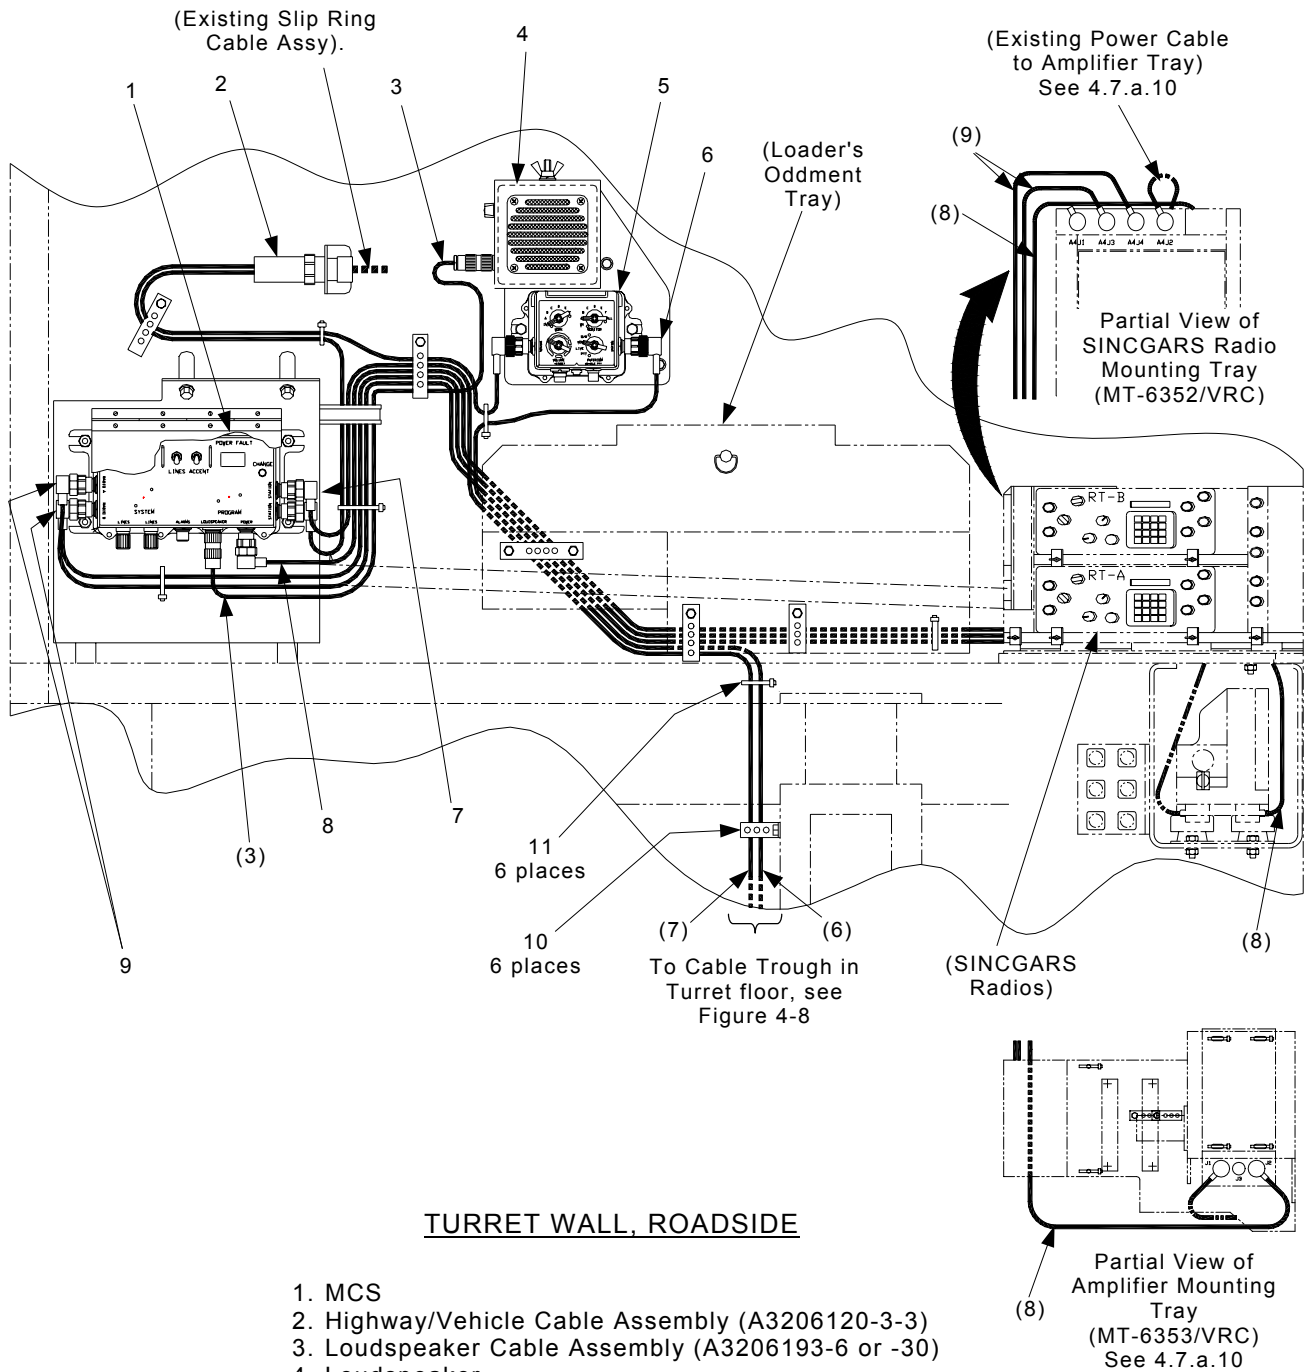

Figure 4-7. MCS, Loader's FFCS and Loudspeaker Cabling
#### a. MCS, Loader's FFCS and Loudspeaker Cabling Installation (Fig. 4-7)
2. Secure connector P1 of the Radio R/T Cable Assembly (9) to the Radio A connector on the MCS (1).
3. Route the Radio R/T Cable (9) as shown in Figure 4-7, until the Radio Mounting Tray is reached.
4. Secure connector P2 of the Radio R/T Cable Assembly (9) to the Radio Mounting Tray connector A4J3.
5. Secure connector P1 of the Radio R/T Cable Assembly (9) to the Radio B connector on the MCS (1).
6. Route the Radio R/T Cable (9) as shown in Figure 4-7, until the Radio Mounting Tray is reached.
7. Secure connector P2 of the Radio R/T Cable Assembly (9) to the Radio Mounting Tray connector A4J4.
8. Secure connector P1 of the Power Cable Assembly (8) to the Power connector on the MCS (1).
9. Route the Power Cable Assembly (8) as shown in Figure 4-7, until the Amplifier Mounting Tray is reached.
10. Secure connector P2 of the Power Cable Assembly (8) to the Amplifier Mounting Tray connector J2. If Amplifier Mounting Tray is not present, secure to connector A4J2 of SINCGARS Radio Mounting Tray.
11. Secure connector P2 of the Highway/Vehicle Cable Assembly (2) to the bottom Station connector on the MCS (1).
**a. MCS, Loader's FFCS and Loudspeaker Cabling Installation (Fig. 4-7)
12. Route P1 leg of the Highway/Vehicle Cable Assembly (2) as shown in Figure 4-7, until the existing Slip Ring Cable Assembly is reached.
13. Secure connector P1 of the Highway/Vehicle Cable Assembly (2) to the Slip Ring Cable Assembly.
14. Route P3 leg of the Highway/Vehicle Cable Assembly (2) as shown in Figure 4-7, until the Loader's FFCS(5) is reached.
15. Secure connector P3 of the Highway/Vehicle Cable Assembly (2) to the left side Station connector of the Loader's FFCS (5).
16. Secure connector P1 of the Loudspeaker Cable Assembly (3) to the Loudspeaker connector on the MCS (1).
17. Route P2 of the Loudspeaker Cable Assembly (3) as shown in Figure 4-7, until the Loudspeaker is reached.
18. Secure connector P2 of the Loudspeaker Cable Assembly (3) to the Loudspeaker.
19. Secure connector P1 of the Highway Cable Assembly (6) to the right side Station connector of the Loader's FFCS (5).
20. Secure connector P2 of the Highway Cable Assembly (7) to the top Station connector on the MCS (1).
21. Route connector P2 of the Highway Cable Assembly (6) and connector P1 of Highway Cable Assembly (7) one at a time along roadside wall and down to cable trough located under the Loader's ammo box, firing gate support, and slip ring cover in turret floor as shown in Figures 4-7 and 4-8.